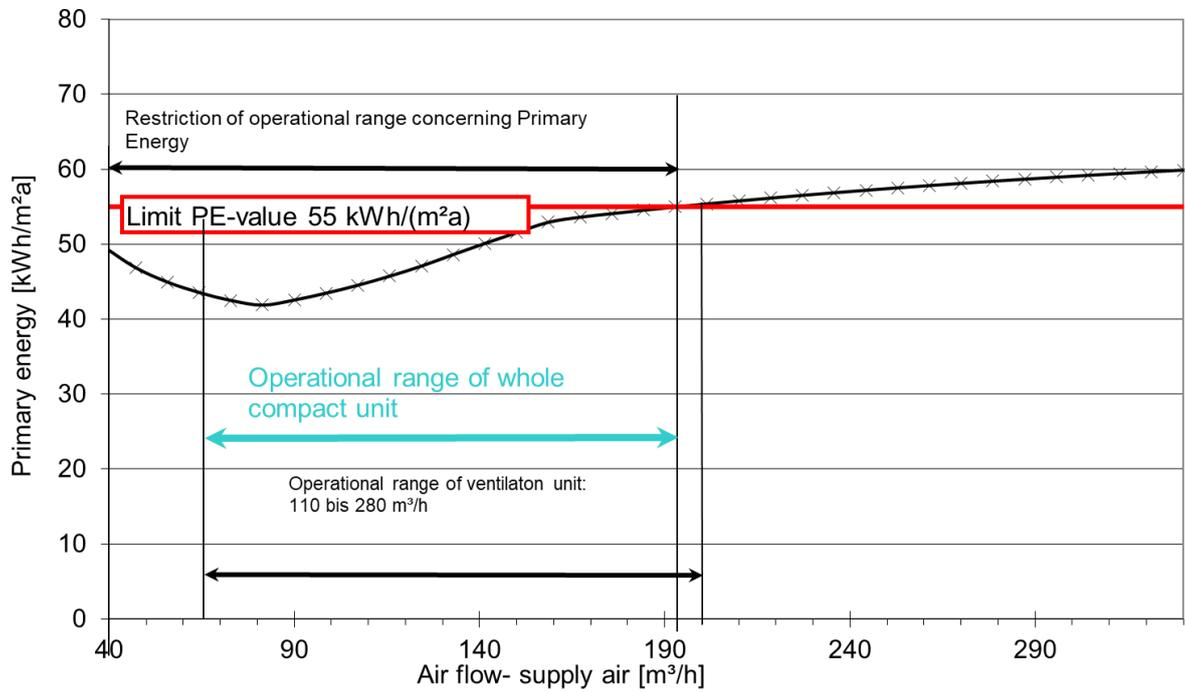

Figure 7: Operational range of recoCOMPACT 3kW (without SHX)
**recoCOMPACT 3kW:** SPF (without SHX) = 1.4, PE-value (without SHX)= 48.7 kWh/m2a. (Figure 7)